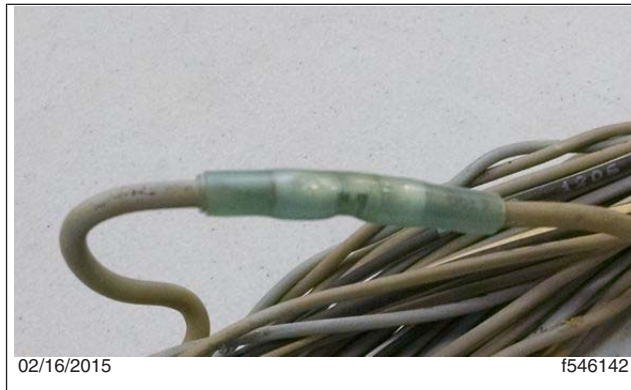

Fig. 8, Wire Repaired with Shrink Tubing
- 11.7 Crimp the Phillips STA-DRY connector on the repaired wires using tool DKIOCHA17003-2 or similar. Use a heat gun to apply the solder and heat shrink the Phillips STA-DRY connectors. See Fig. 8.